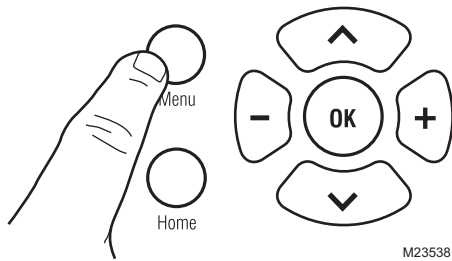
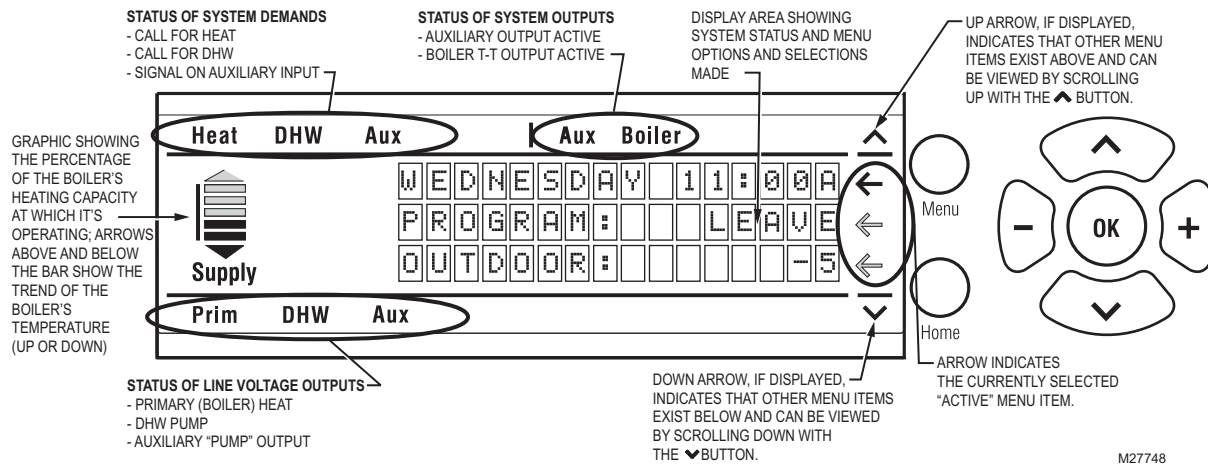

Fig. 21. AQ251 keypad.
Fig. 22. LCD display and keypad layout.
The AQ251 User Interface consists of an LCD screen (16 characters by 3 rows) and a 7-button keypad for navigating the menus, as illustrated in Fig. 22. Fig. 21 provides an isolated view of the keypad.
The layout of the display is logical and simple to navigate. The information displays so that the installer can see at a glance the system's operating temperatures, as well as the status of the system equipment, such as a call for heat, DHW pump on, Boiler T-T terminals energized, etc. In addition, all system information displays in simple, straightforward English for quick system diagnosis. Fig. 22 illustrates the layout and features of the LCD display panel and keypad.
Program the AQ251 by using the keypad and LCD display to select parameters from the User and Installer menus. Refer to Fig. 22 on page 16 for an illustration of the LCD screen and keypad.
- When TEST OUTPUTS is selected, the AQ251 LCD displays a list of all outputs that can be tested. To select an output to test, position the indicator arrow (←) beside that output and press the + button to activate the output’s relay. As each output is activated, a word icon for that output is displayed at the top or bottom of the LCD display (refer to Fig. 22 on page 16). The test routine activates the output relay until the – button is pressed to turn off that output.
NOTE: See Fig. 22 on page 16 for the demands and outputs display areas on the LCD.